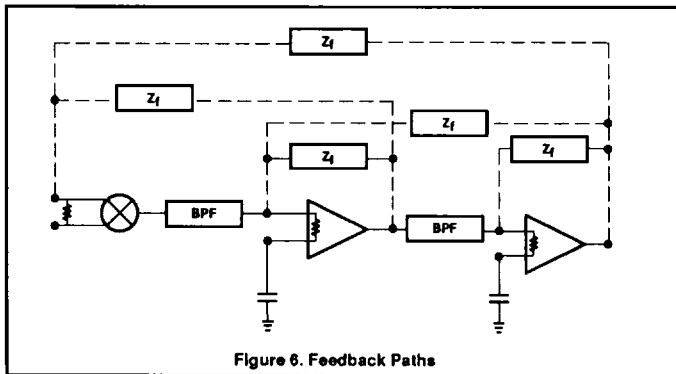

Figure 6. Feedback Paths
shown in Figure 6. Distributed feedback (capacitance, inductance and radiated fields) forms a divider from the output of the limiters back to the inputs (including the RF input). If this feedback divider does not cause attenuation greater than the gain of the forward path, then oscillation or low level regeneration is likely. If regeneration occurs, two symptoms may be present: (1) The RSSI output will be high with no signal input (should nominally be 250mV or lower), and (2) the demodulated output will demonstrate a threshold. Above a certain input level, the limited signal will begin to dominate the regeneration, and the demodulator will begin to operate in a "normal" manner.